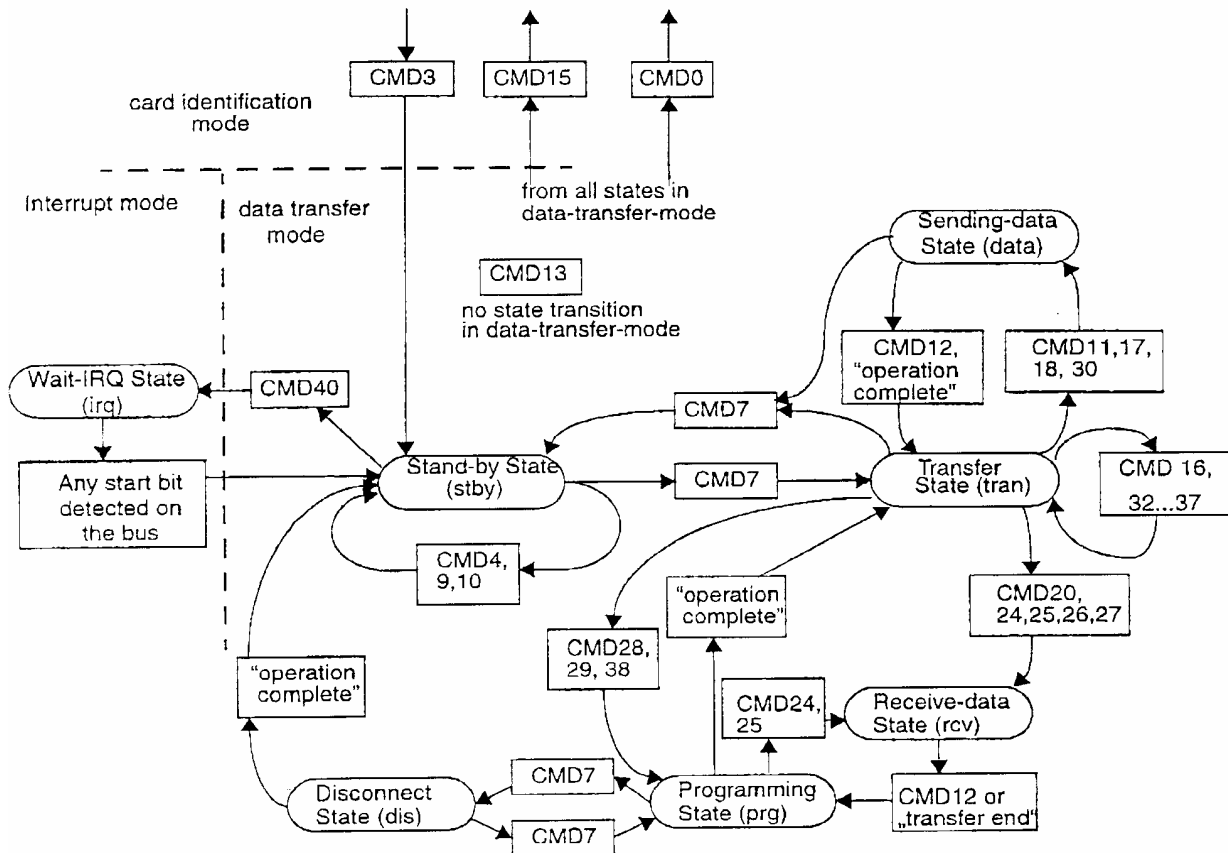

Figure 5-2 MultiMediaCard State Diagram (Data Transfer Mode)
A general overview of the command flow is shown in Figure 5-1 for the Card Identification Mode and in Figure 5-2 for the Data Transfer Mode. The commands are listed in the command tables (Table 5-3 through Table 5-11). The dependencies between the current MultiMediaCard state, received command and following state are listed in Table 5-12. In the following sections, the different card operation modes will be described first. Thereafter, the restrictions for controlling the clock signal are defined. All MultiMediaCard commands together with the corresponding responses, state transitions, error conditions and timings are presented in the following sections.
The following table shows the dependencies between bus modes, operation modes and card states. Each state in the MultiMediaCard state diagram (Figure 5-1 and Figure 5-2) is associated with one bus mode and one operation mode:
The relationship between the various data transfer modes is summarized in the card state diagram Figure 5-2, and in the following paragraphs:
- The MultiMediaCard may provide buffering for stream and block write. This means that the next block can be sent to the card while the previous is being programmed. If all write buffers are full, and as long as the MultiMediaCard is in Programming State (see MultiMediaCard state diagram Figure 5-2), the DAT line will be kept low.
Similarly, if an illegal command has been received, a MultiMediaCard shall not change its state, shall not respond and shall set the ILLEGAL_COMMAND error bit in the status register. Only the non-erroneous state branches are shown in the state diagrams (Figure 5-1 and Figure 5-2). Table 5-12 contains a complete state transition description.